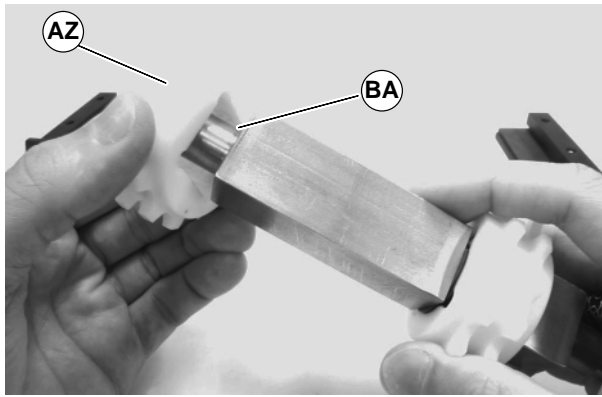

Figure 39
- Slide free moving sprocket(s) (AZ of Figure 39) off the end of pulley (BA).